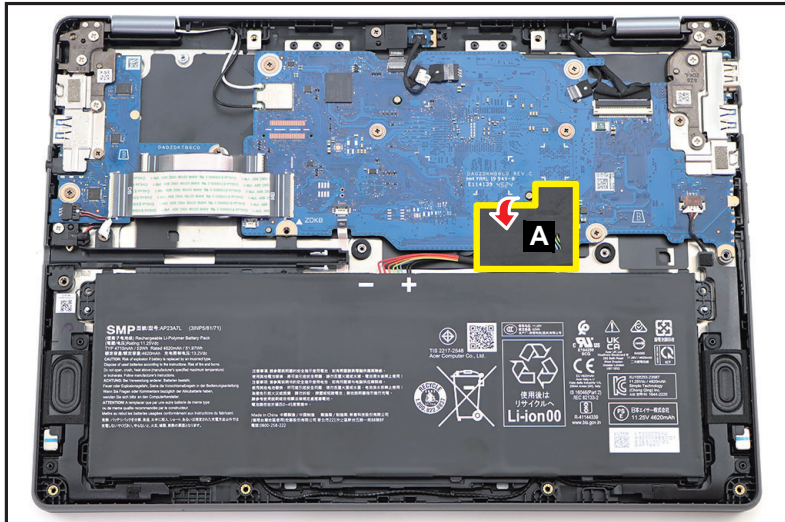

Figure 1-6. Battery Pack Removal
1. Detach the tape (A) securing the battery cable connection (Figure 1-6).